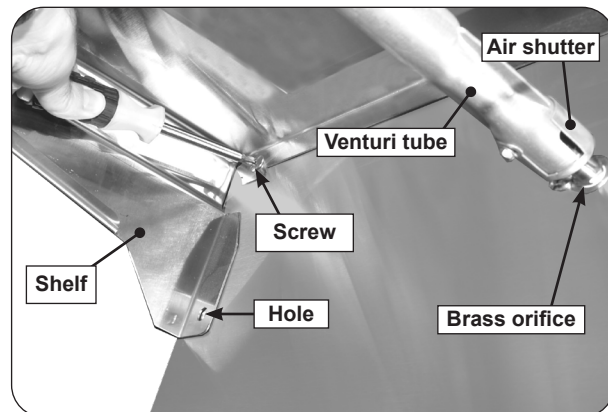

Fig. 24-1 Burner shelf setup (under shelf view)
2. Hold the sideburner shelf up against the left side wall of the grill so that the holes in the shelf line up with the four (4) threaded screw holes in the side wall and the air-shutter end of the sideburner venturi tube fits around the brass orifice protruding from the side of the cart. See Fig. 24-1.
3. Insert and start screws with fingers and then tighten using a Phillips screwdriver. See Fig. 24-1.